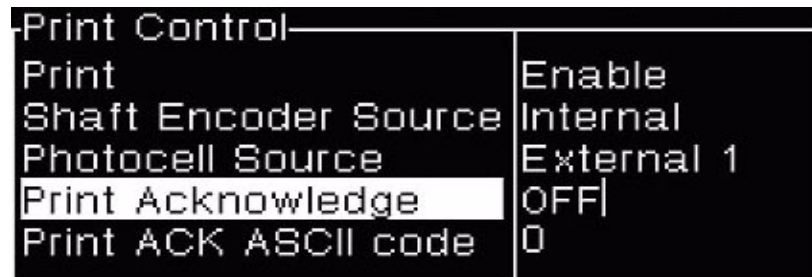

Figure 7-1: Print Control Dialog Box
- 3 Press Enter to open the Print Control dialog box (Figure 7-1).